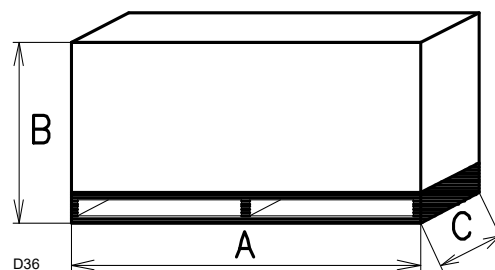

Fig. 2
- The packaging of the burner (Fig. 2) rests on a wooden platform that is particularly suitable for lift trucks.